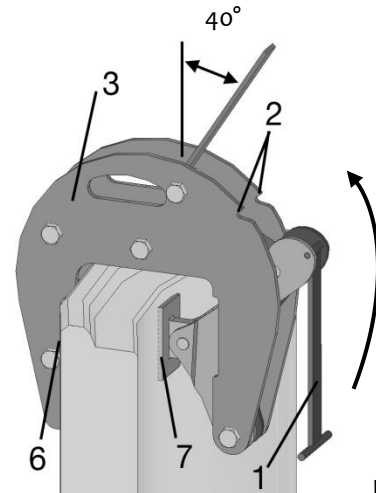
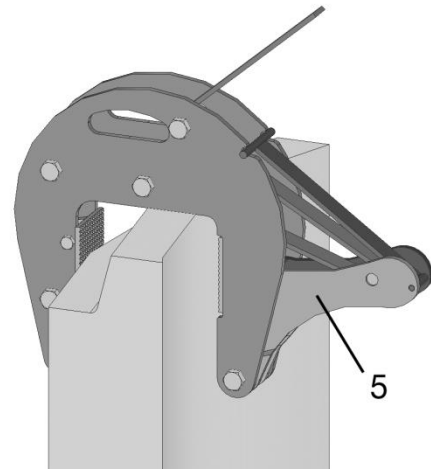

Fig. 2
Abb. 3
- Rotate holdfast application (1) upwards (Fig. 2) and locate in both grooves (2) on the outside jaw (3): Now the jaw is locked at its maximum opening width (Fig. 3). During the adjustment it must be ensured that the web slings are not loaded and not twisted.
- Unlock all the holdfast applications (1) and rotate downwards: the angle levers (5) are rotated downwards by means of the springs.
- Both clamping jaws (6 and 7) must have contact with the complete surface of the manhole (Fig. 2). Lift manhole by approx. 10 cm.